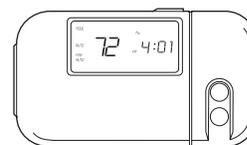

Fig. 1 – Thermostat/Unit Controller
Step 1 — Set room thermostat/unit controller to the lowest temperature setting and set the SYSTEM switch to HEAT or AUTO position. See Fig. 1.
Step 2 — Turn off gas supply by closing the gas supply shut-off valve (external to RTU unit). See Fig. 1 for location.